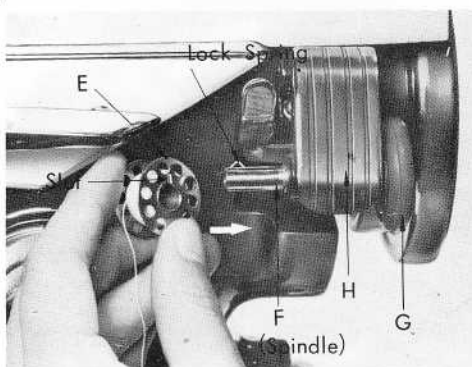

Fig. 9
3. Wind the thread several times on the bobbin (E) Fig. 9. Now place the bobbin on the spindle (F) Fig. 9. of the bobbin winder.
NOTE : The lock spring on the spindle must fit into the slot in the bobbin. This is done by holding the rubber ring (G) Fig. 9 with the right hand and turning the bobbin with the left hand until the lock spring slips into the slot of the bobbin.
4. Push the latch (H) Fig. 9 of the bobbin winder down until the rubber ring (G) Fig. 9 is brought in contact with the fly wheel.